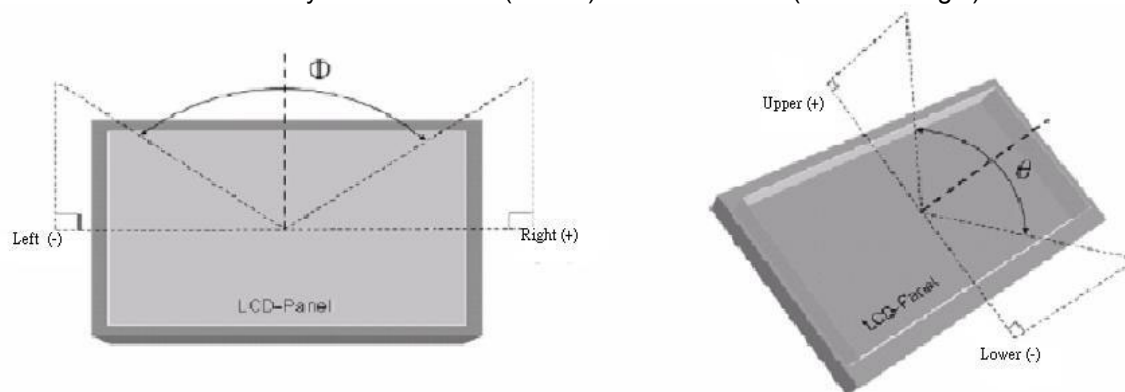

Fig8-2 Definition of Viewing Angle
*4) Definition of Viewing Angle (φ, θ), refer to Fig8-2 as below :